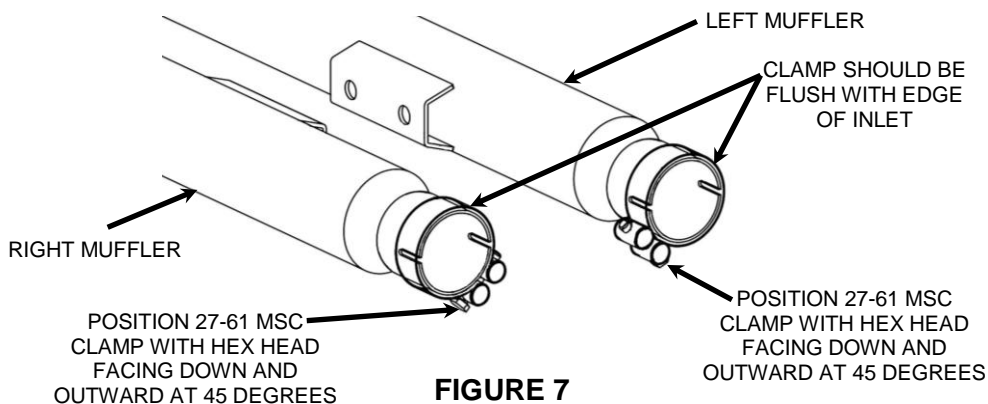

FIGURE 7
22. Position the supplied #27-61 MSC muffler clamp with hex head facing down and outward at a 45 degree angle as shown in **FIGURE 7** and slide onto the left and right rear muffler inlet tubes. (NOTE: The clamps should be flush with the end of the muffler inlets when tightened. See **FIGURE 7**. If the clamps are slid past the slots on the muffler inlets the clamps will not tighten properly).
25. Make sure the left and right headpipes and mufflers are straight and parallel with the ground. Also make sure the left front and left rear headpipes have the proper clearance between the rear cylinder fins and the rear frame. From the rear of the motorcycle make sure the muffler outlets are flush and level with each other. When all the pipes are aligned tighten in the following order; headpipe flanges to the cylinders (slowly tightening opposing nuts), mufflers to the exhaust mount bracket, left rear headpipe clamp, and finally the muffler clamps. (NOTE: The muffler clamps should be flush with the end of the muffler inlet when tightened. See **FIGURE 7**. If the muffler clamps are slid past the slots on the muffler inlets the clamps will not tighten properly).
28. Install the right headpipe heatshield first followed by the right muffler heatshield second. See **FIGURE 8**. Slide the rear portion of the muffler heatshield forward over the muffler while gently pushing the front of the muffler heatshield underneath the rear of the right headpipe heatshield. (NOTE: Spread the hose clamps apart slightly to make it easier to slide them over the muffler and headpipes.) Make sure the muffler clamp does not interfere with the heatshield and is aligned as shown in **FIGURE 7**.
30. Align the tapped holes in the side of the fishtail tip with the holes in the muffler heatshield and slide it into the heatshield. (NOTE: If it is difficult to slide the tip into the heatshield loosen the clamps on the muffler heatshield. Failure to do this may cause damage to the tips.) Fasten the tip with (2) of the supplied ¼-20 button head screws making sure there is no gap between the tip and muffler heatshield when tightened.